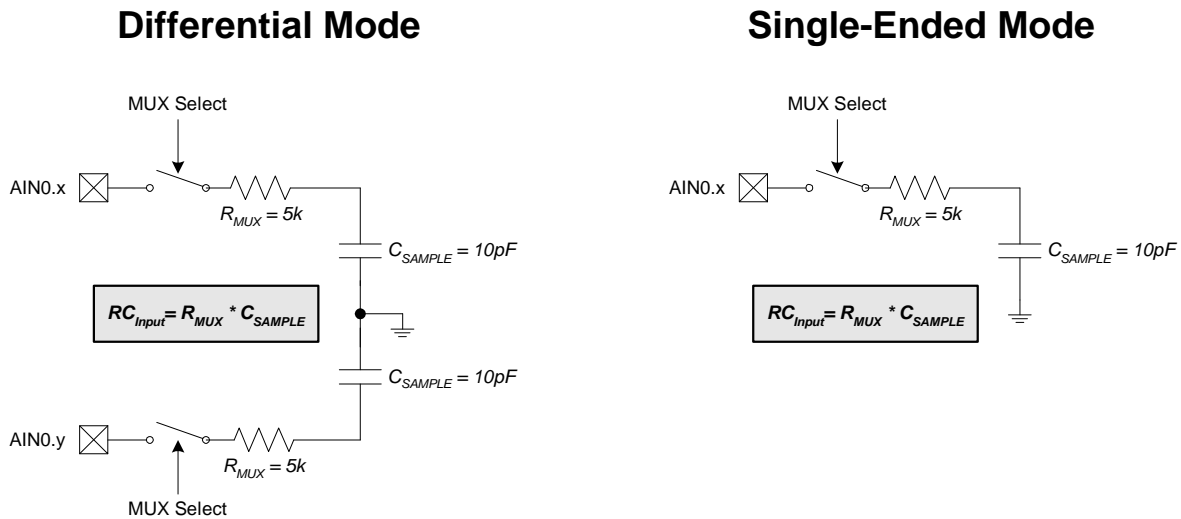

Figure 6.4. ADC0 Equivalent Input Circuits
A minimum tracking time is required before an accurate conversion can be performed. This tracking time is determined by the ADC0 MUX resistance, the ADC0 sampling capacitance, any external source resistance, and the accuracy required for the conversion. Figure 6.4 shows the equivalent ADC0 input circuits for both Differential and Single-ended modes. Notice that the equivalent time constant for both input circuits is the same. The required settling time for a given settling accuracy (SA) may be approximated by Equation 6.1. When measuring the Temperature Sensor output, R_{TOTAL} reduces to R_{MUX} . An absolute minimum settling time of 1.5 μ s is required after any MUX or PGA selection. Note that in low-power tracking mode, three SAR clocks are used for tracking at the start of every conversion. For most applications, these three SAR clocks will meet the tracking requirements.